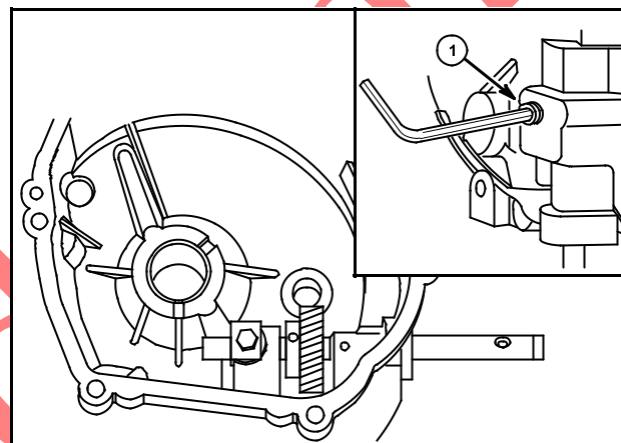

Fig. 52
3. To remove auxiliary PTO shaft, remove Allen screw from sump (1), Fig. 52.